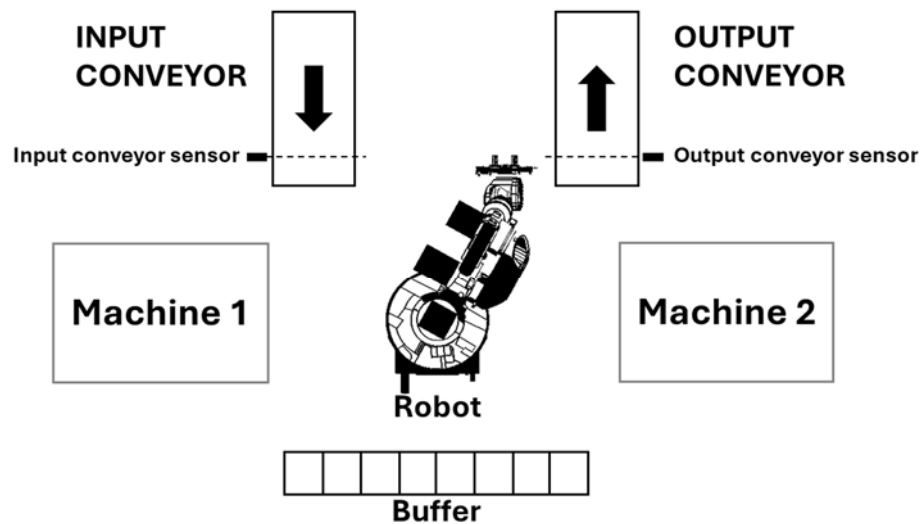
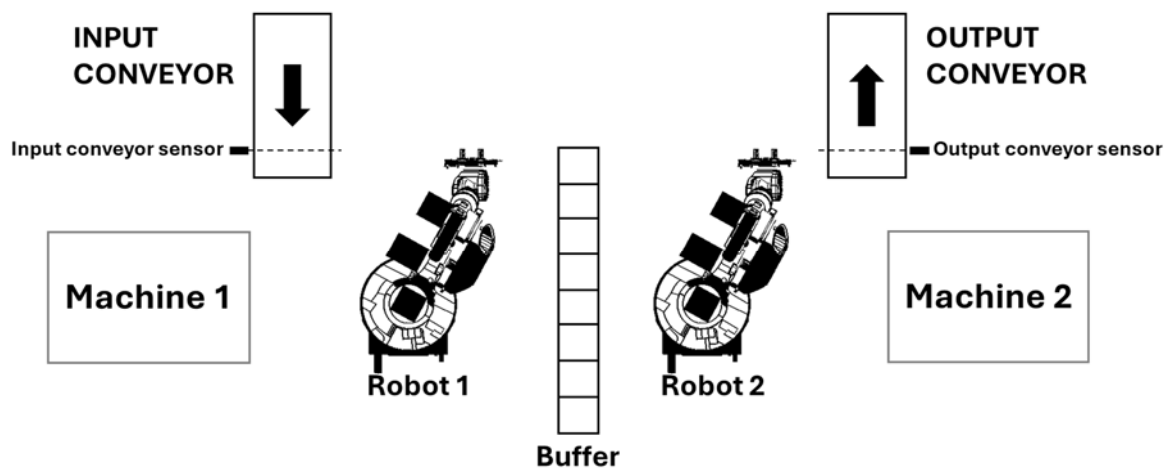

Fig 2
Fig 3
- (b) In the machining cell of Fig 2, products arrive on the input conveyor and are detected at the end of the conveyor by a sensor. The products first require a machining operation performed by Machine 1 and then a second machining operation performed by Machine 2. After the second machining operation, the products are only unloaded from Machine 2 and placed on the output conveyor if the conveyor has space (as detected by a sensor at the start of the output conveyor). The cell also includes a buffer for products between the two machining operations, which can hold up to eight products.
- (c) Consider that a second robot is added to the machining cell of Fig 2, resulting in the cell layout shown in Fig 3.